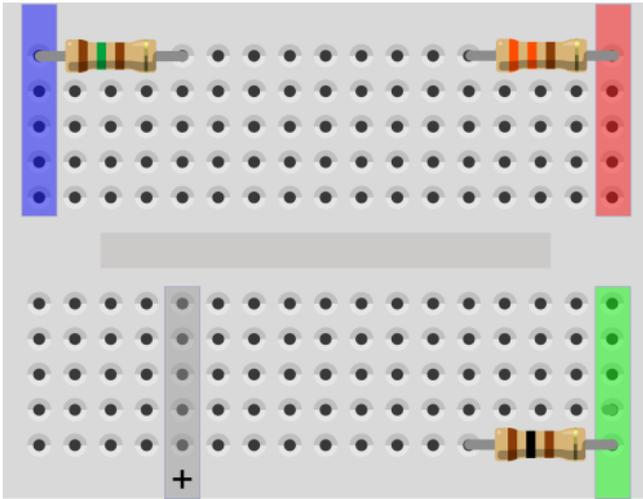

Figure 5-20. Resistor placement
1. Place the resistors as shown in Figure 5-20.